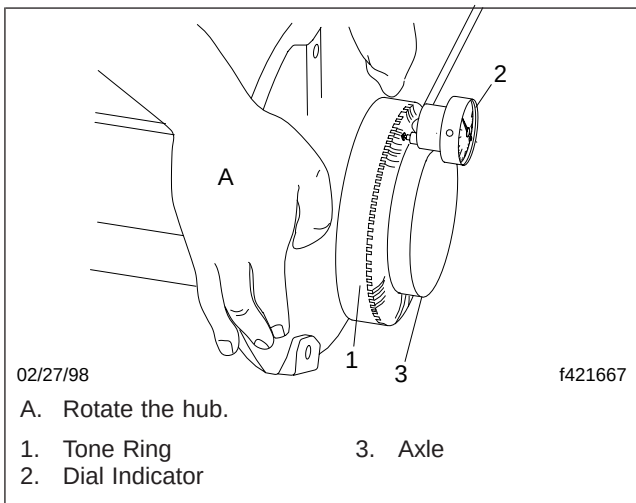

Fig. 4, Checking Tone-Ring Runout
5. Rotate the hub and check the ring for runout. The runout should be less than 0.005 inch (0.13 mm). See Fig. 4.